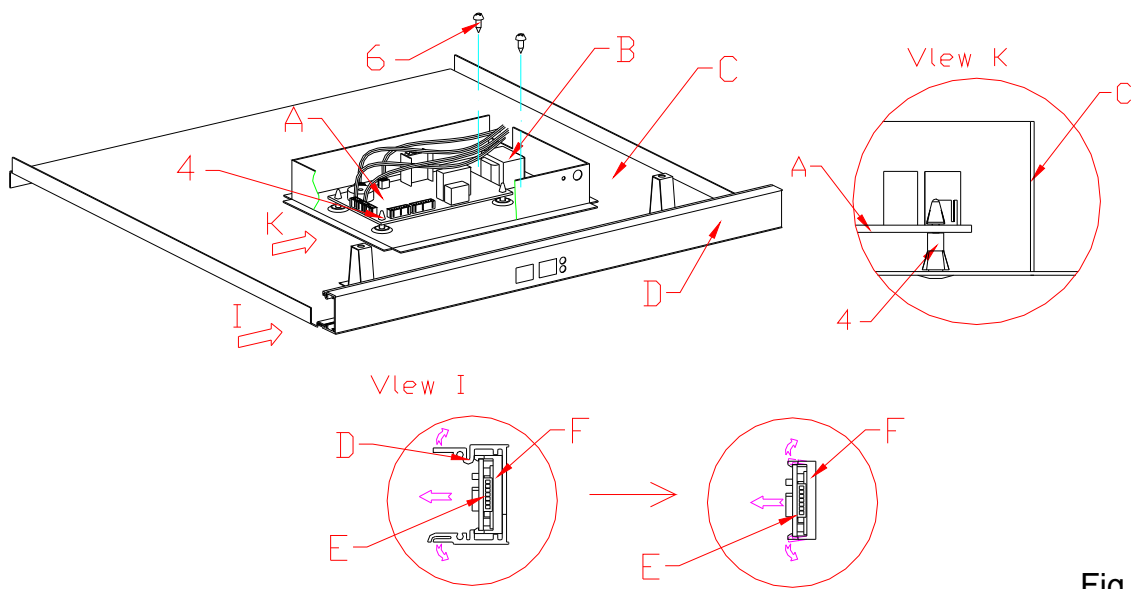
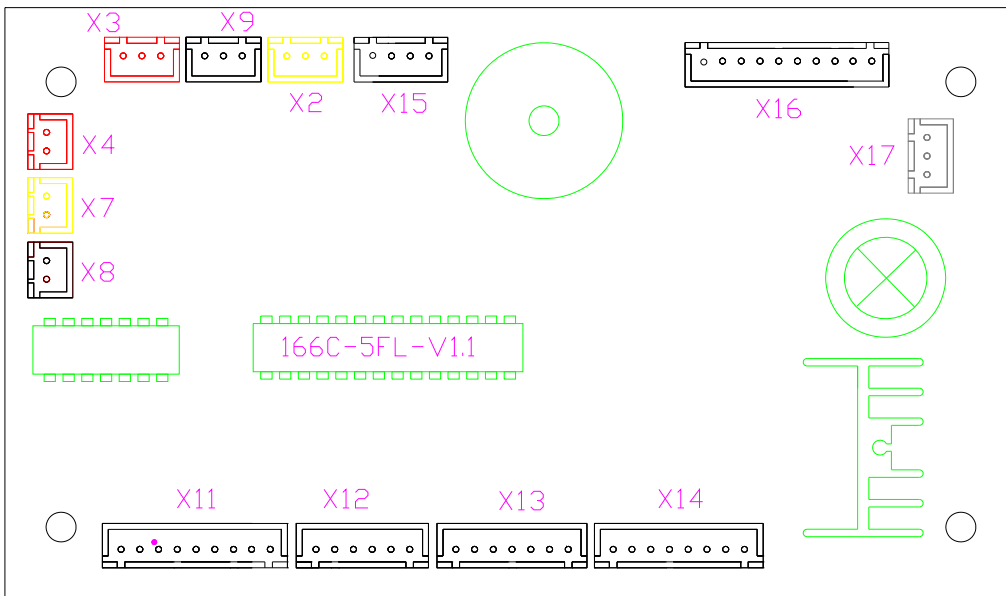

Fig. 9
Fig. 10
3 > . If the above a-e point is line in the situation, and every components of the mechine is normal; if there is any different, and firstly check the abnormal components and their connection wire. If the connection is tight, replace the components. If the replacement fail, it can be judged as control panel's fault, please replace it with the same module. (→9、→10、→11、) (Fig.9 & Fig.10 & Fig.11 & Fig.12.1 & Fig.12.2 & Fig.12.3)
Replace the displace PCB (→8) (Fig.9).
1 > . Disconnect all connectors one by one, pinch the head of the plastic nails(4), take up the PCB at the same time, take away the PCB from nails, replace it please (Fig. 9) (View K) ,
Open the fixing part (D) slightly according to the arrowhead in the view I, take apart the displace PCB support (F) , then pull 4 hooks of the support (F) according to the arrowhead, take apart the displace PCB (E), disconnect the connectors, replace it please. (Fig. 9) (View I)
○ Layout of main PCB (Fig. 10)
4 .If it is PCB broken,replace it please. (Fig. 9)